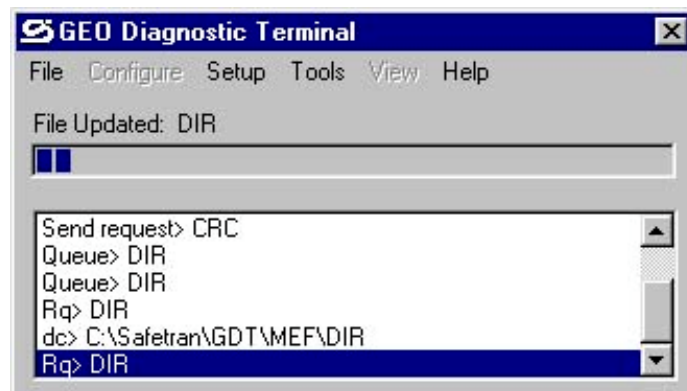

Figure 3-2
4. When the GDT establishes communication with the GEO™ unit, the screen changes to one similar to figure 3-2 as data is downloaded from the GEO™ wayside unit. Just above the progress bar is a message field that indicates the task currently being performed (e.g., Waiting for connection, File Updated, etc.).